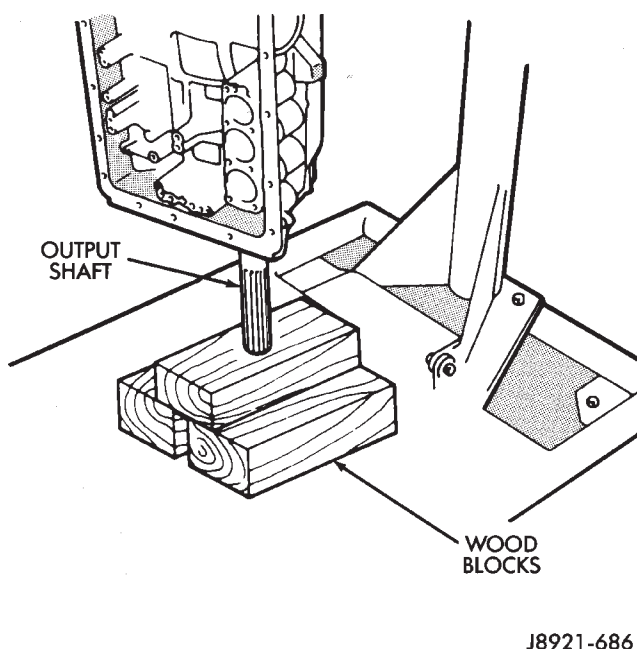

Fig. 19 Supporting Output Shaft
(24) Support output shaft with wood blocks (Fig. 19).